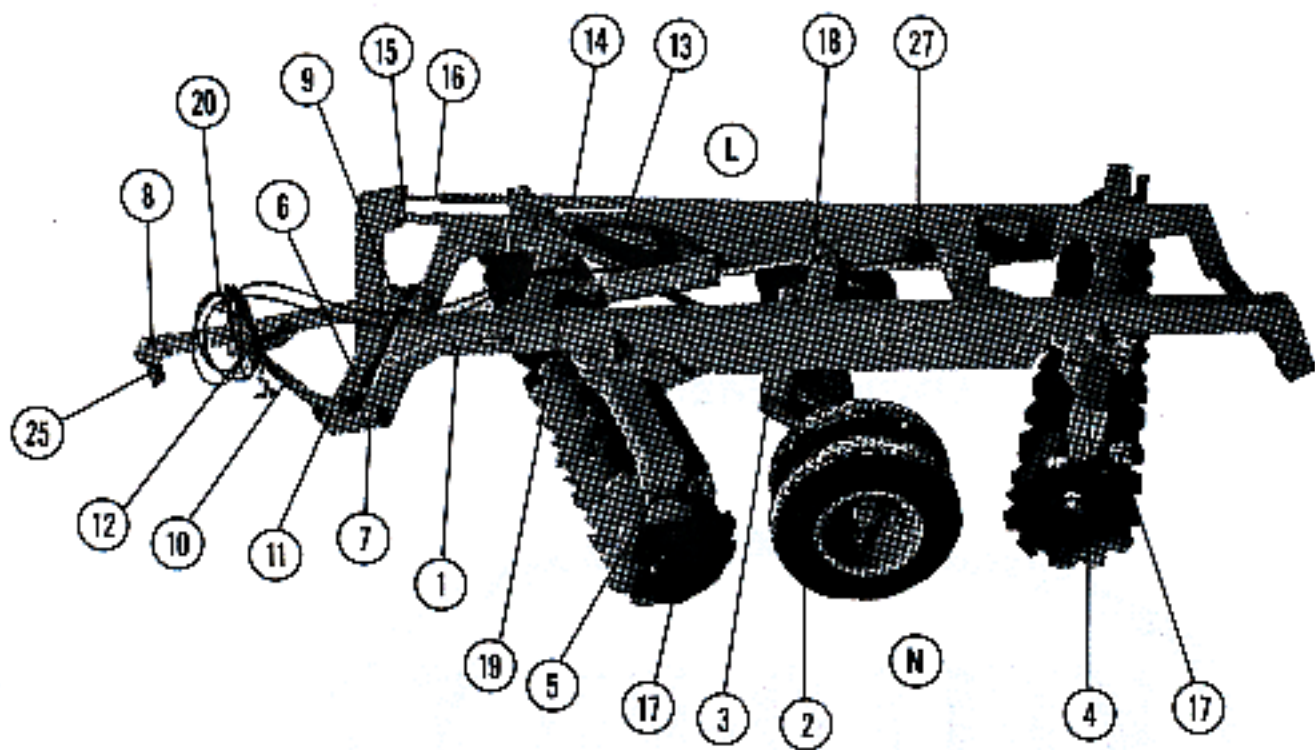

Figure 1
- 1. Hydraulic Cylinder and Hoses:** (Refer to Figure 1) A 5" x 20" stroke double acting hydraulic cylinder is required to lift disc. Two 19 ft. hydraulic hoses are needed to allow full offsetting and turning without hose damage.
**CAUTION:** Be certain the rod or moving end of the cylinder is to the rear(18) with the butt end to the front at main frame(18). Fasten the hoses through hose stand(20) with enough slack to allow tractor to turn, but without enough to let hose drag.
- 2. Angle Changing:** (Refer to Figure 1) To change angle, raise disc on wheels until discs are clear of ground. Remove bolt(21) and loosen the three remaining bolts. Slide gang bar forward or backward as desired. Replace bolt and tighten all bolts securely. For ordinary conditions set both front and rear gangs in next to maximum angle. Increase angles as required to soil conditions.
- 4. Offsetting The Hitch:** (Refer to Figure 1) This unit is designed to trail straight behind the tractor. Minimum side draft will be obtained when the hitch is in line with outside beam of main frame. If more adjustment is required adjust side arm to required hole position.
- 5. Hitch Height:** (Refer to Figure 1) The hitch pole should always be as near level as possible when discing.
- A. Front to Rear:** (Refer to Figure 1) With disc raised and hitch to tractor, adjust bottom fore-aft eye bolt(15) until main frame is level. Adjust fore-aft spring lock(16) until spring is snug. The top spring should be under some compression when discing, but should never be compressed solidly. **NOTE:** In general use as little pressure as possible when discing.
- 7. Transporting:** (Refer to Figure 1) Disc may be transported without using hydraulic cylinder. Place the rod(27) through the hole in anchor on frame(1) and place clevis over transport block. Raise the disc until the cylinder has reached the end of its stroke. Insert pin in clevis and adjust transport rod nut until there is about 1/2" between nut and transport anchor. Release pressure on hydraulic cylinder and remove. **CAUTION:** Extreme care should be taken not to collapse the cylinder too much with the transport rod in transport position.
1. **To Install Wheel Carriage and Wheels:** (Refer to Figure 1) Place wheel carriage(2) under the main frame(1) and attach frame with pins(3). Install 5/16 x 2 lock bolts in pins and tighten lock nuts securely. Install wheels on to hubs with wheel bolts provided and tighten securely.
2. **To Attach Gang Bars to Frame:** (Refer to Figure 1) Bolt rear gang bar(4) to main frame(1) in next to maximum angle with 1 1/4" x 4 1/2" bolts. Install leveling washers on top of angling plates on long side of disc(L). Install leveling washers between gang bar and angling plates on narrow side of disc(N). Bolt front gang bar(5) to main frame in next to maximum angle with 1 1/4" x 4 1/2" bolts. Install leveling washers same as rear gang.
3. **To Attach Hitch Bridle to Frame:** (Refer to Figure 1) Place bridle(6) at front of frame(1) and attach with pins(7). Install lock bolts and tighten nuts securely.
4. **To attach Hitch Pole to Bridle:** (Refer to Figure 1) Attach main hitch pole(8) to bridle(6) at lead corner(9) with 2"x10" bolt. Attach hitch side arm(10) to opposite side of bridle(11) with 1 1/4"x7" bolt. Join hitch pole and side arm with 1 1/4"x7" bolt. Tighten all bolts securely.
5. **To Attach Fore-Aft Leveling Assembly:** (Refer to Figure 1) Install short tube(13) to wheel carriage with 1" pin. Install long tube(14) with 1" pin. Slide short fore-aft eye bolt(15) into bottom tube(13) (pinned to wheel carriage) and pin to bottom hold of bridle mast(6). Slide long fore-aft eye bolt c/w spring and washers into top tube(14) (attached to main frame) and pin to top hole of bridle mast(6).
6. **To Attach Scrapers:** (Refer to Figure 1) Attach scraper bars(17) to gang bars (4 & 5) with bolts provided. Attach scrapers to scraper bar with clamps and bolts provided use care to adjust scrapers close to discs but not rubbing.